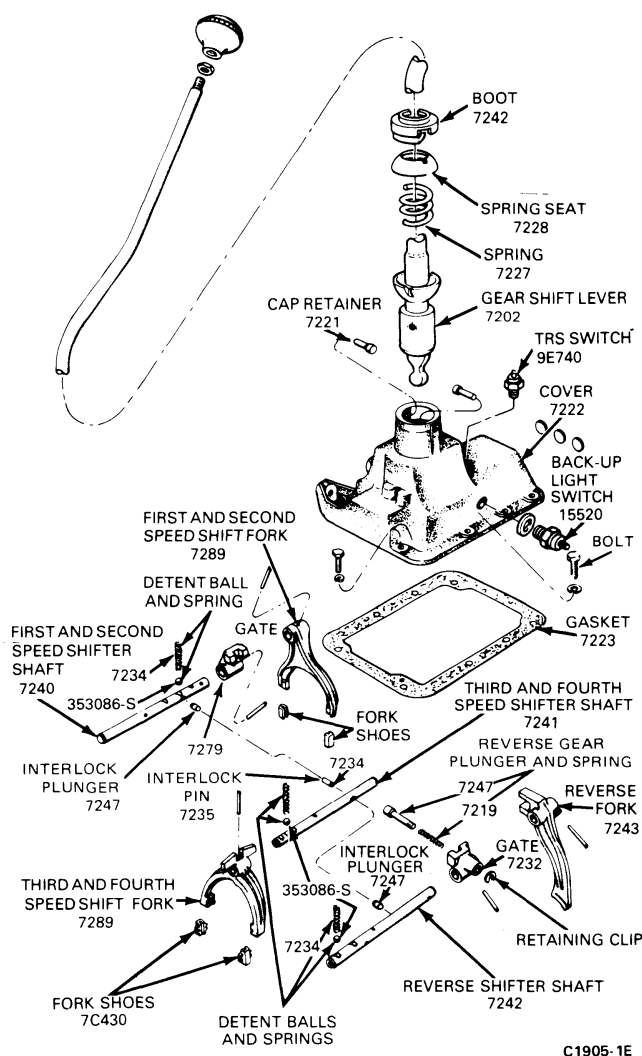

FIG. 13 Gearshift Housing Disassembled
4. Remove the back-up lamp switch from the housing (Fig. 13).
8. Compress the reverse gear plunger and remove the retaining clip. Remove the plunger and the spring from the gate (Fig. 13).
1. Assemble the spring on the reverse gear plunger (Fig. 13) and hold it in the reverse shift gate. Compress it in the gate and install the retaining clip.
6. Install the two interlock plungers in the bores (Fig. 13).